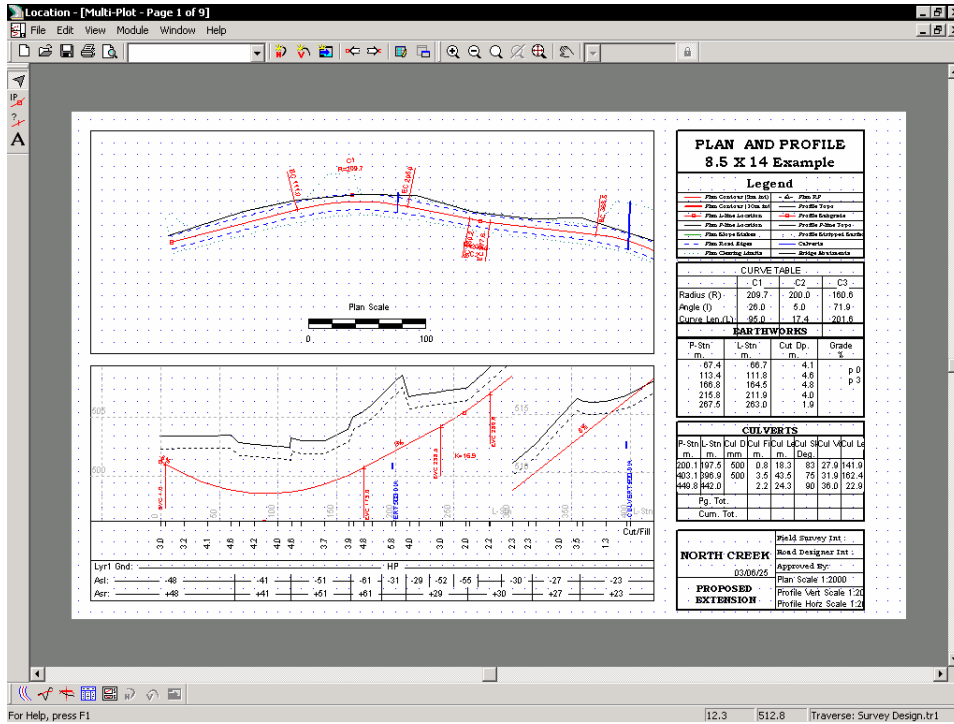

Figure 9.11 Final Multi-Plot Sheet
18. Add in the *Major contour (10m)* and *Minor contour (2m)* items shown in Figure 9.11. Press the *Add* button; choose a line-type or symbol. Press OK. Then add a *Description* for the resulting line-type.
The Result is a Legend similar to the one shown in Figure 9.11.